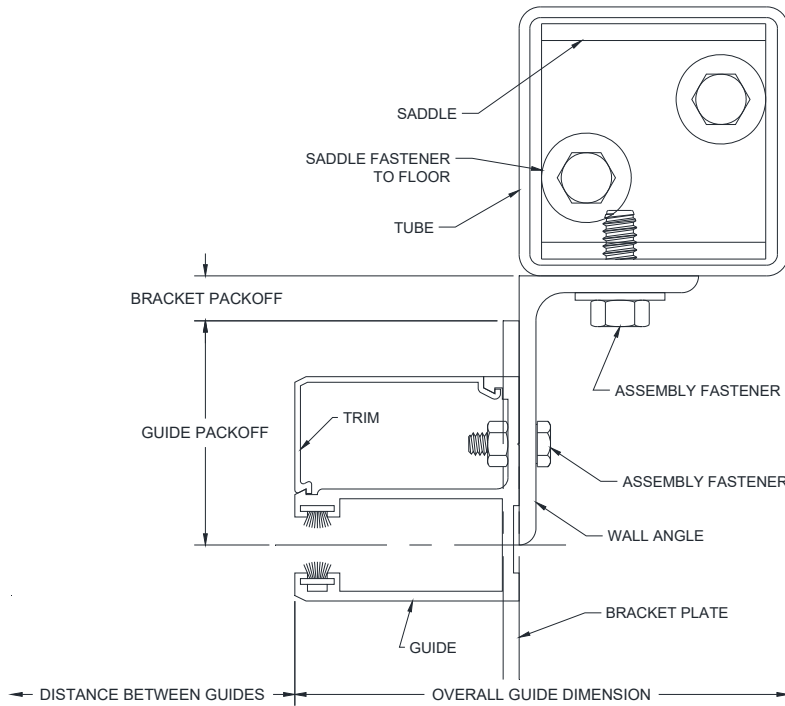

Figure 5.3– Face of Wall “Z” Guide Mounting to Tube
- **Face of Wall and Between Jamb Units Mounting to Free-Standing Tubes (Figures 5.3 - 5.4):**
13. If the guide has a wall angle, as in **Figures 5.3 and 5.4**, fasten the wall angle to the mounting tube with the hardware provided. Check the job construction drawings for the required wall fastener. Tighten the wall fasteners to the recommended installation torque in the *Torque Specifications Tables* in **Section 11**.